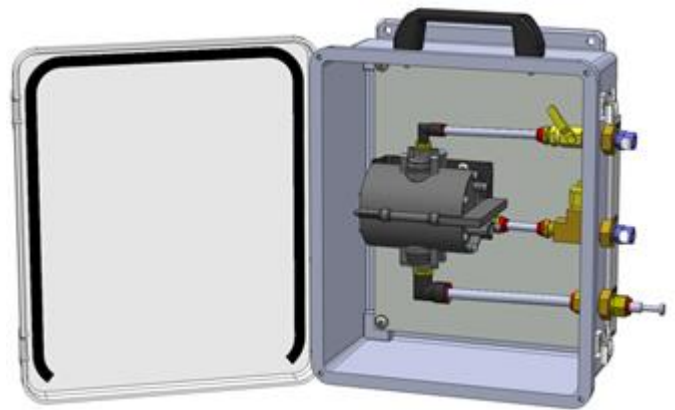

Figure 5: Determine pressures for testing and injecting large diameter cables.
- a. Use the pressure test to prove that the cable system is leak-free before you begin injecting with the pump (Figure 5).